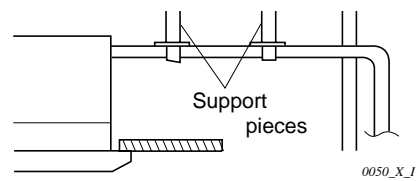

Fig. 3-16
- Do not apply force to the piping on the unit side when connecting the drain pipe. The pipe should not be allowed to hang unsupported from its connection to the unit. Fasten the pipe to a wall, frame or other support as close to the unit as possible. (Fig. 3-16)